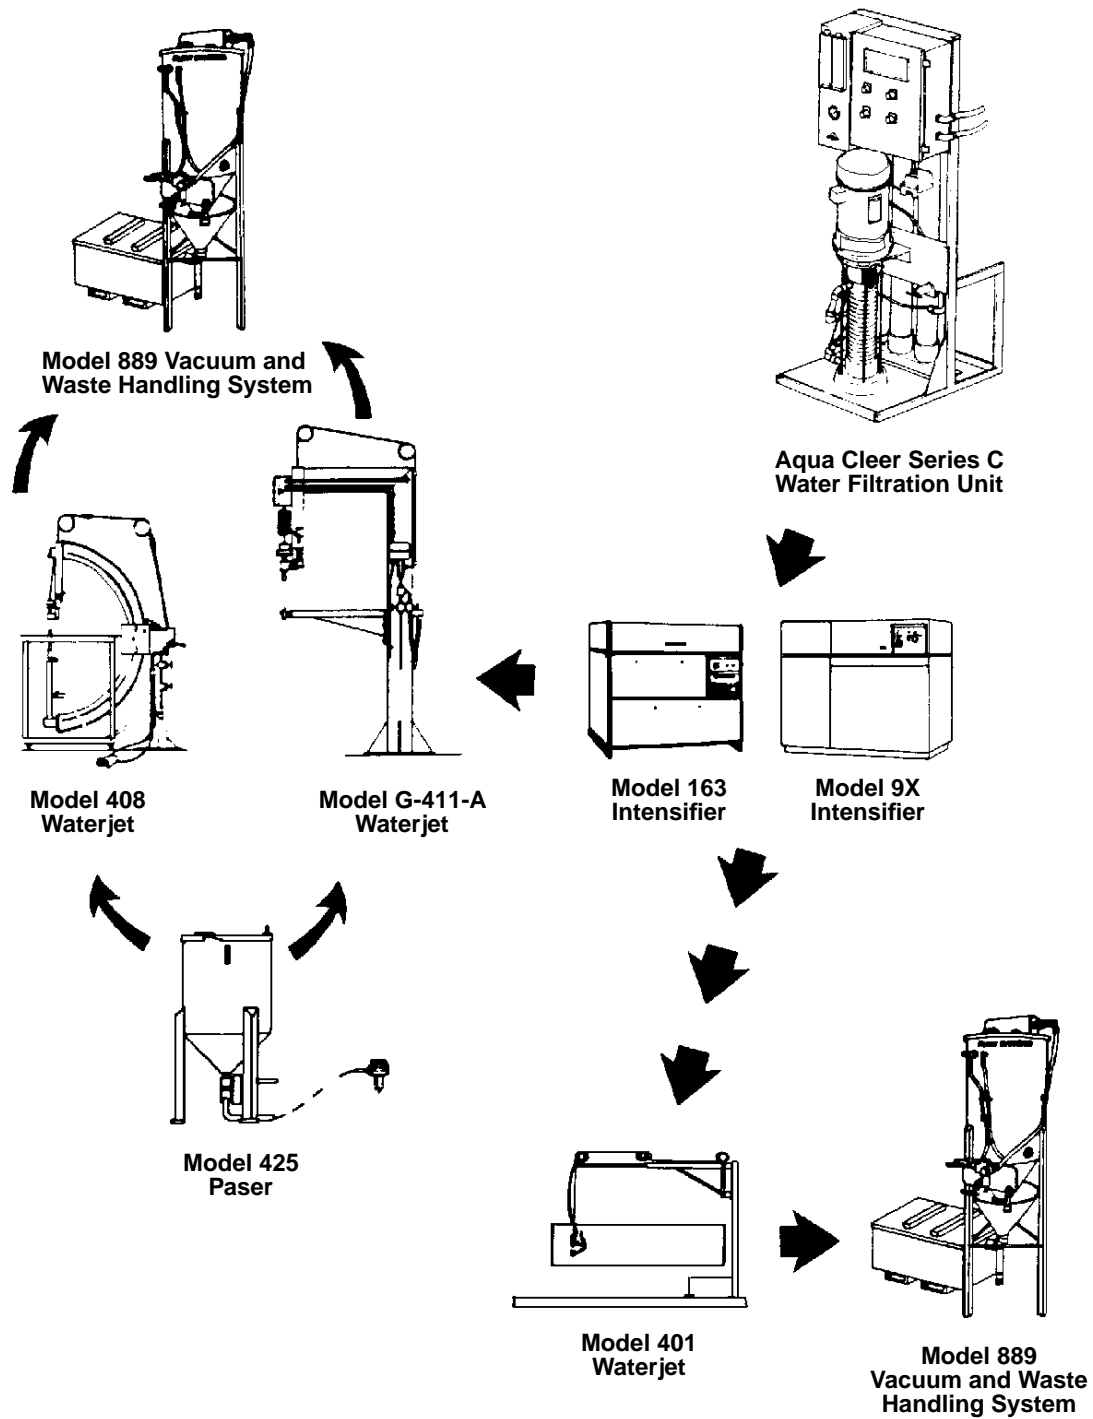

FIGURE 1 - GENERAL DESCRIPTION OF WATERJET CUTTING SYSTEM
4.2.1.1 Refer to Figure 1 for a general description of the waterjet.
5.4.3.1 Set-up of the cutting stations and the Model 425 Paser to suit the particular part to be cut shall be performed by the operator as shown in Figure 1 through Figure 3. The following component parts are replaceable:
- 5.5.2 The standard template used at DHC are Tool Types 248 and 285 (TS.897.22.11). Tool Type 248 templates have a 1/16" set-back on all edges to be cut by the waterjet while Tool Type 285 templates have a 3/32" set-back. These templates require nozzle nuts with matching 1/16" and 3/32" set-back guides. The 3/32" set-back edges on Tool Type 285 templates are identified by a red line. Refer to Figure 1 for tool selection. The templates to be used when abrasive waterjet cutting with the Model 425 Paser are Tool Type 257 (TS.897.22.12), with a 1/8" set-back on all edges to be cut by the abrasive waterjet. If the component thickness is less than 0.063", a sub-template is normally supplied in order to provide additional support in the areas of locating, clamping and cutting. The sub-template is clamped to the reverse side of the component.
- 5.5.4 In addition to the Type 248 templates, a number of older Type 76, 173 and 225 templates have been modified to be used for waterjet cutting by incorporating a 1/16" set-back. These templates have been re-numbered as Type 248 and can be used with the standard 1/16" set-back nozzle nut guides. Some of these reworked templates have protruding drill bushings set close to the edges which may interfere with the waterjet nozzle. Use special stepped nozzle nuts with these templates. Refer to Figure 1 for tool selection.
- 5.6.2.9 The waterjet shall produce a coherent stream, with very little misting, for the following distances. If the stream breaks up before the distance specified, replace the orifice as shown in Figure 1.